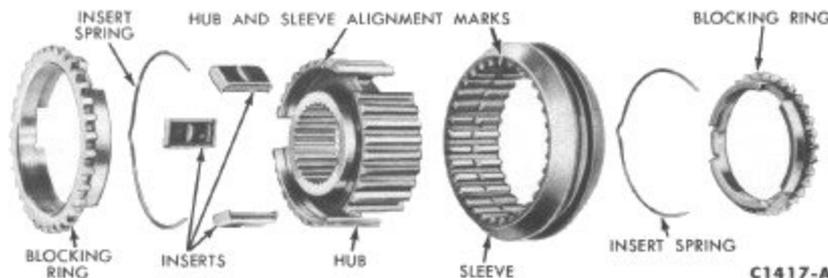

FIG. 54—Second and Third Gear Synchronizer Disassembled
3. Install one insert spring (Fig. 54) in to a groove of the synchronizer